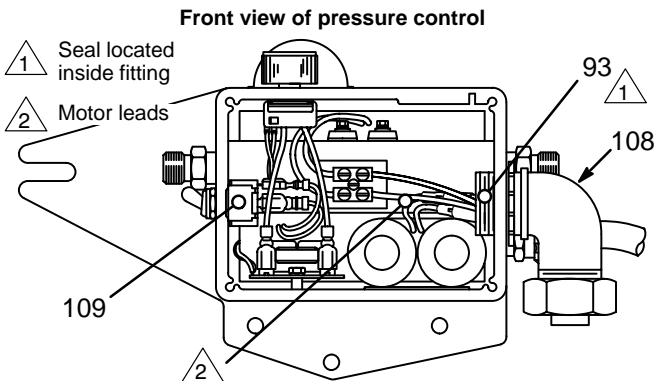

Fig. 22
2. Disconnect the main hose (47).
3. Disconnect the drain tube (101) from the pump (39) and suction tube.
4. Loosen the filter bracket nut (28). Remove the filter.
5. Remove the pressure control cover (36). Disconnect the four motor leads. See Fig. 22.
6. Unscrew the connector from the pressure control. Loosen the nut on the connector (108) and pull the conduit (22) and motor leads out of the pressure control.
7. Remove the pressure control mounting screws (37). Remove the pressure control. Install the connector (108) on the new pressure control.
8. Install the new pressure control. Place the seals (93) around the motor leads and push the seals into the connector (108). Be sure to install the gas-kets (108).